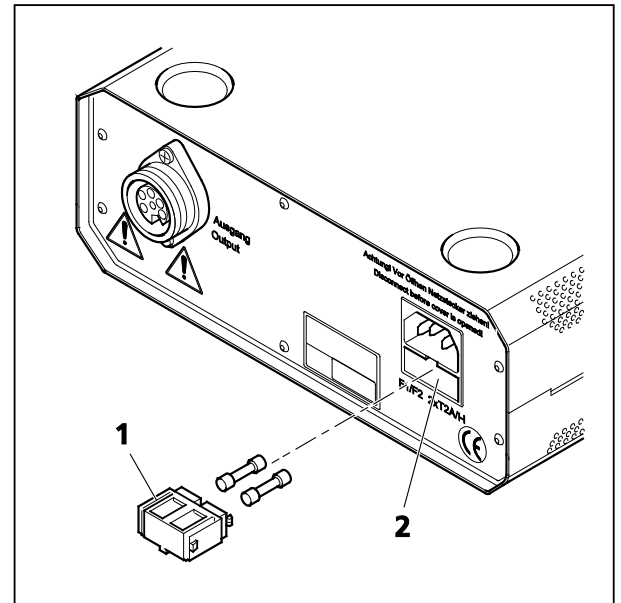

Fig. 166 Changing fuses in the ballast unit (power supply unit)
- Remove the fuse holder (Fig. 166/1) from the fuse compartment (Fig. 166/2) by pulling it towards you.